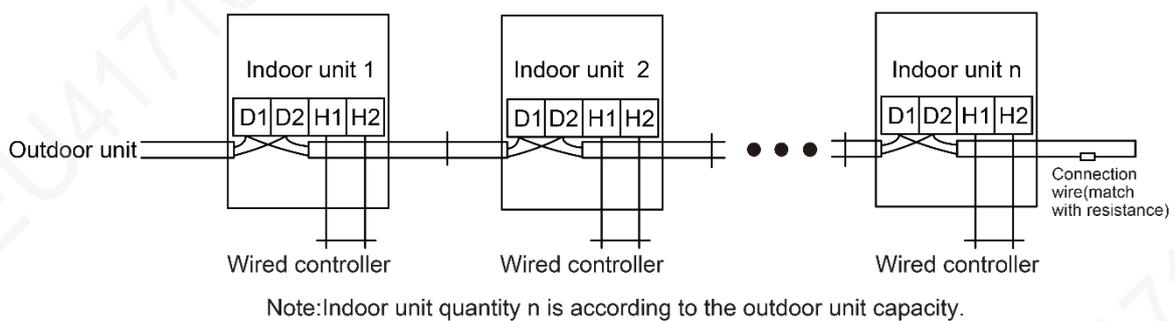

Fig.5.3.2
- (4) Fix the communication cable with clamp of electric box.
- (5) For more reliable communication, make sure connect the terminal resistor to the most downstream IDU of the communication bus (terminals D1 and D2), as shown in Fig. 5.3.2, terminal resistor is provided with each ODU.